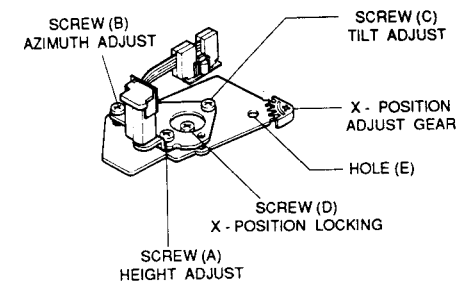

Fig. 4 Location of A/C Head Adjustment Screw
(Refer to Fig. 4 and 5)
3. Adjust screw (B) to achieve maximum audio level. (See Fig. 4)